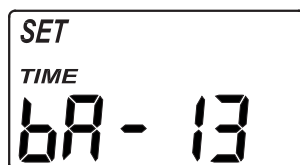

FIG. 31
2. Press the SELECT button five times, so that “SET TIME bA” appears in the display (See Figure 31).